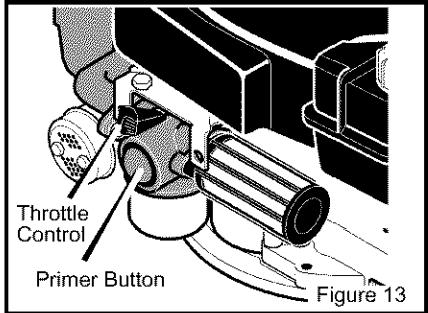

Figure 13
6. Some models have a primer button on the front or side of the engine (Figure 13). Every time you push the primer button, wait two seconds. For the number of times required to push the primer button, see the engine manufacturer's instructions.